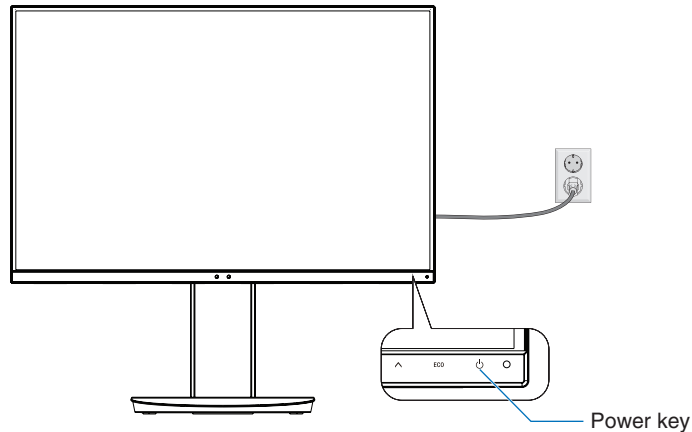

Figure E.1
8. Turn on the monitor by touching the [⏻] key and then turn on the computer (**Figure E.1**).